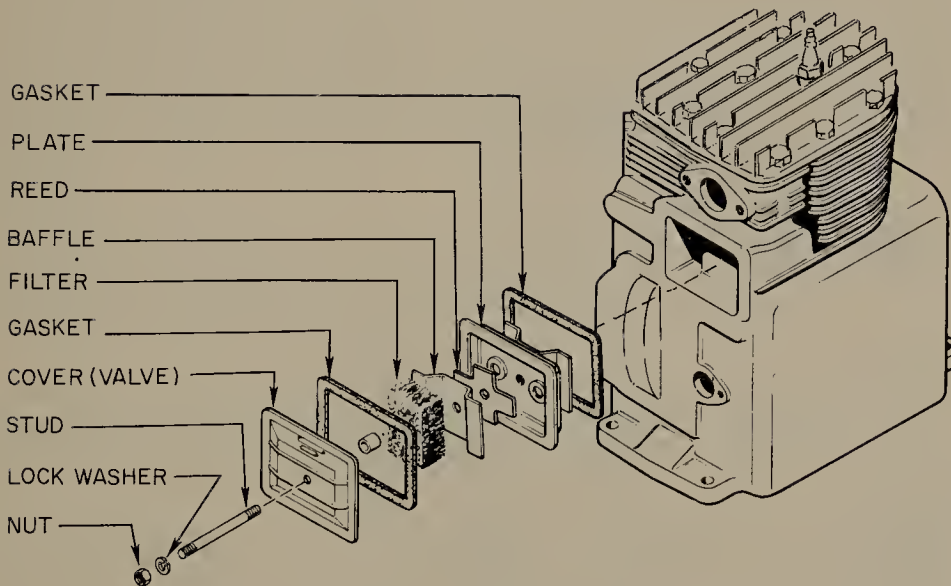

FIGURE 11.21 Disassembled view of a crankcase breather for a small four-cycle engine.
11.15 Cleaning Crankcase Breathers. Four cycle engines must have some means of allowing blowby to escape. Blowby, as you know, is the seepage of combustion gases from the combustion chamber past the piston and rings. This blowby can build up in the crankcase if it has no way to escape, and this can damage the engine. The blowby gases can cause corrosion of engine parts and short engine life. To allow the blowby gases to escape, various types of crankcase breathers are used. One type, shown in Fig. 11.20, consists of a mesh-type filter element and a reed valve. The reed valve is a flexible plate which rests against one or more openings. Figure 11.21 is a disassembled view of the arrangement. The reed-valve type operates as follows.
To clean a crankcase-breather filter, remove the nut, screw, or other fastener holding it in position. Be sure to note the proper relationships of the various parts. Figure 11.21 shows one arrangement. The filter element can be cleaned in solvent and dried. Reassemble the parts in their original arrangement.